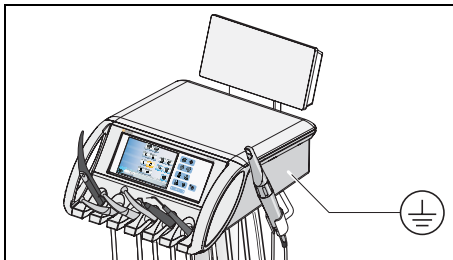

Fig. 3-7 Measurement point in the dentist element
- screw on the underside of the dentist element (Figure 3-7)